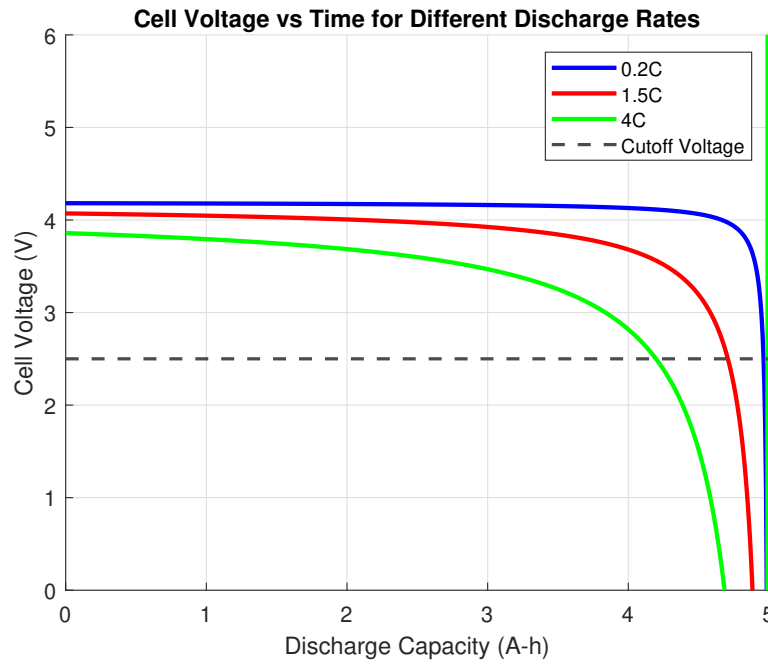

Figure 2.5: Cell voltage as function of discharged energy.
- d) After performing these calculations, we compare the energy delivered at different C-rates (0.2C, 1.5C, and 4C) with the theoretical energy. The available energy at each discharge rate can be seen in Table 2.1. The cell voltage as a function of discharged energy is shown in Figure 2.5.